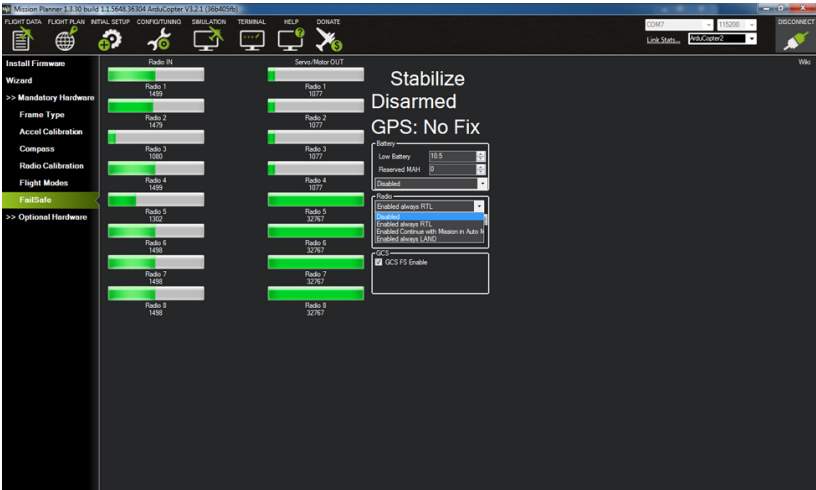

Figure 9-19. *Radio FailSafe options.*
c. In the Radio field just below, select your desired action from the drop-down menu (see Figure 9-19). This will tell the APM what to do any time the radio connection is dropped for a certain amount of time (as decided by APM). Now set the FS PWM text field to a value of 975. This tells APM what the PWM value should be during the RTH event. The options for the Radio FailSafe actions are: